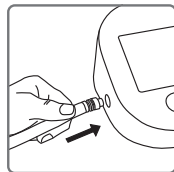

Fig. 1
1. Plug the air hose into the connector (Fig. 1).